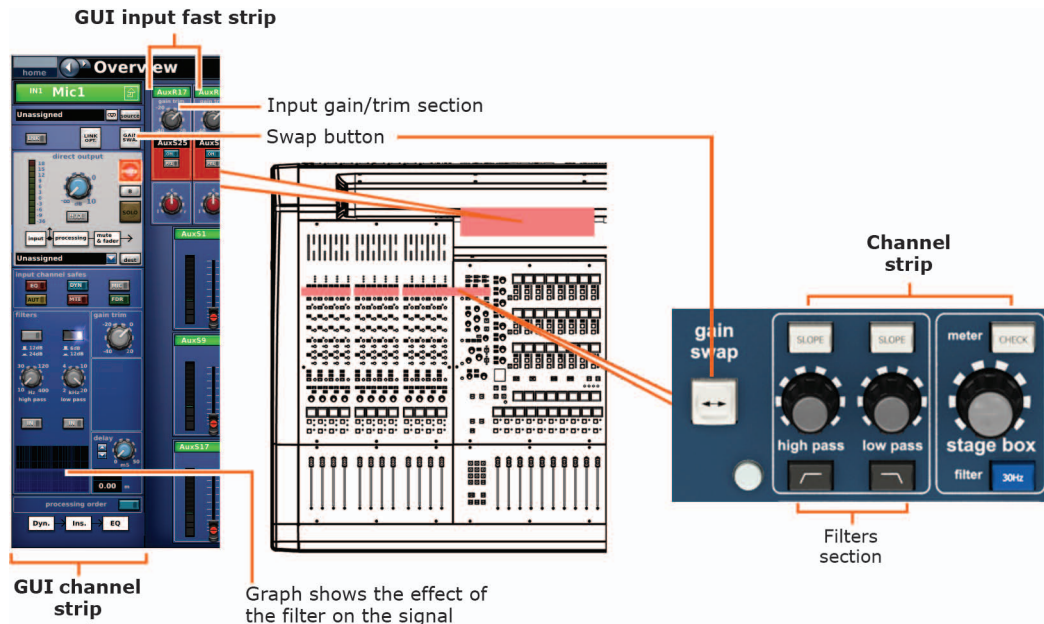

Figure 15: Gain and filter sections of the input strips
1. In the **gain trim** section of an input fast strip, press the quick access button (see Figure 15 "Gain and filter sections of the input strips"). This selects the input channel and assigns its configuration processing area to the GUI channel strip, which contains the **GAIN SWAP** button.
1. In the **gain trim** section of an input fast strip (see Figure 15 "Gain and filter sections of the input strips"), press the quick access button. This selects the input channel and assigns its configuration processing area to the GUI channel strip, which contains the **filters** section.